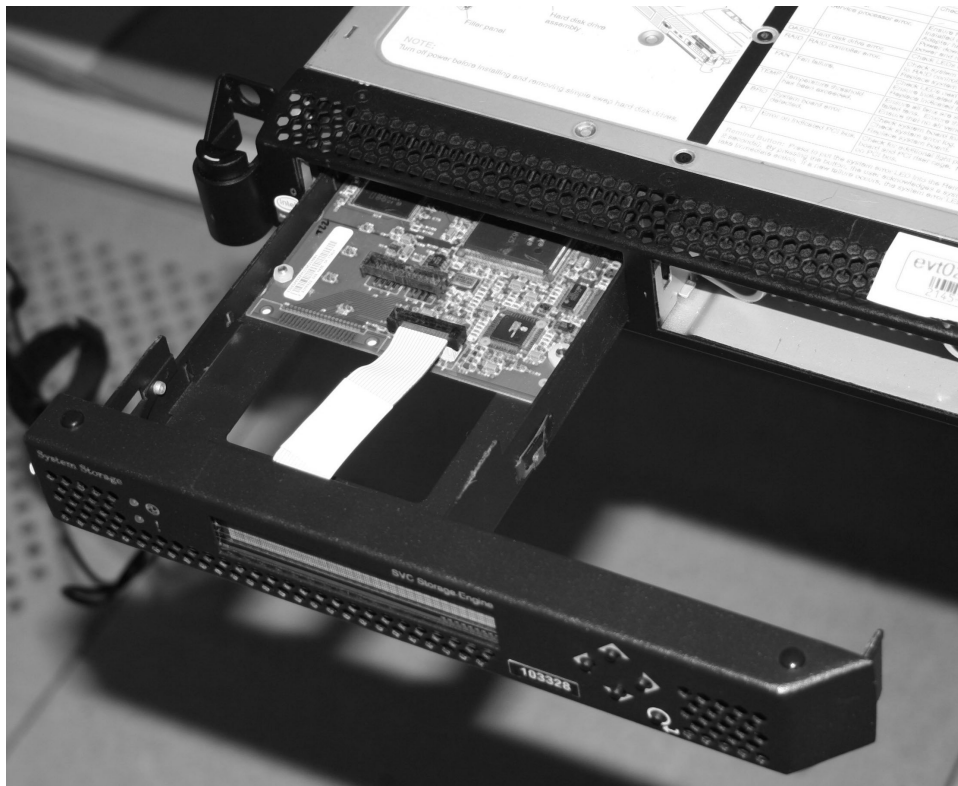

Figure 84. Removing the service controller from the SAN Volume Controller 2145-8G4
6. You can stop pressing the release button and pull the service controller fully out of the frame, as shown in Figure 84